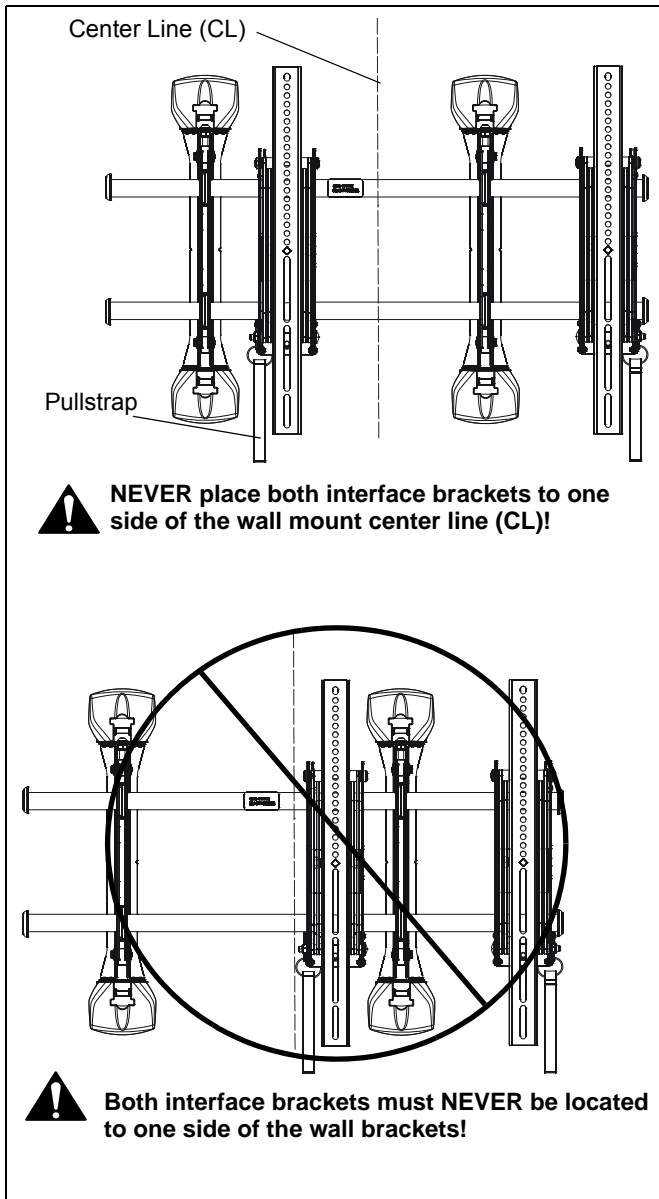

Figure 10
- Adjust Velcro® pull strap (if necessary) so it does not extend beyond bottom of screen. (See Figure 10)
NOTE: Do NOT allow both interface brackets (U and V) to be located on same side of wall bracket. (See Figure 10)
NOTE: NEVER place both interface brackets (U and V) to one side of the wall mount center line! (See Figure 10)